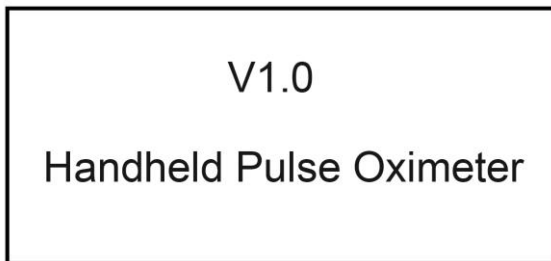

Figure 4.1
- Long pressing "⏻" Power/Left key for 1~2 seconds, then the oximeter will be powered on. The oximeter will do self-test and then show the software version, as shown in figure 4.1 (refer to your oximeter for actual version).